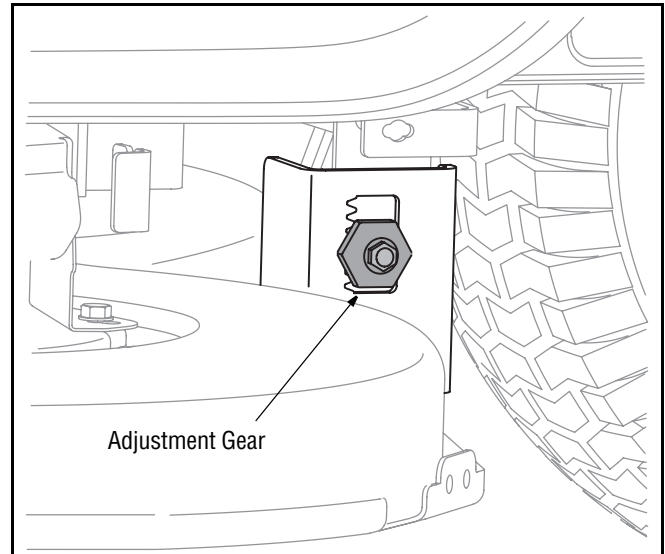

Figure 13
- Locate the jam nut and lock nut found on the front side of the stabilizer bracket. See Figure 13. After loosening the jam nut: Tighten the lock nut to raise the front of the deck; Loosen the lock nut to lower the front of the deck.
- Loosen, but do NOT remove, the hex screw on the left deck hanger bracket. See Figure 13.